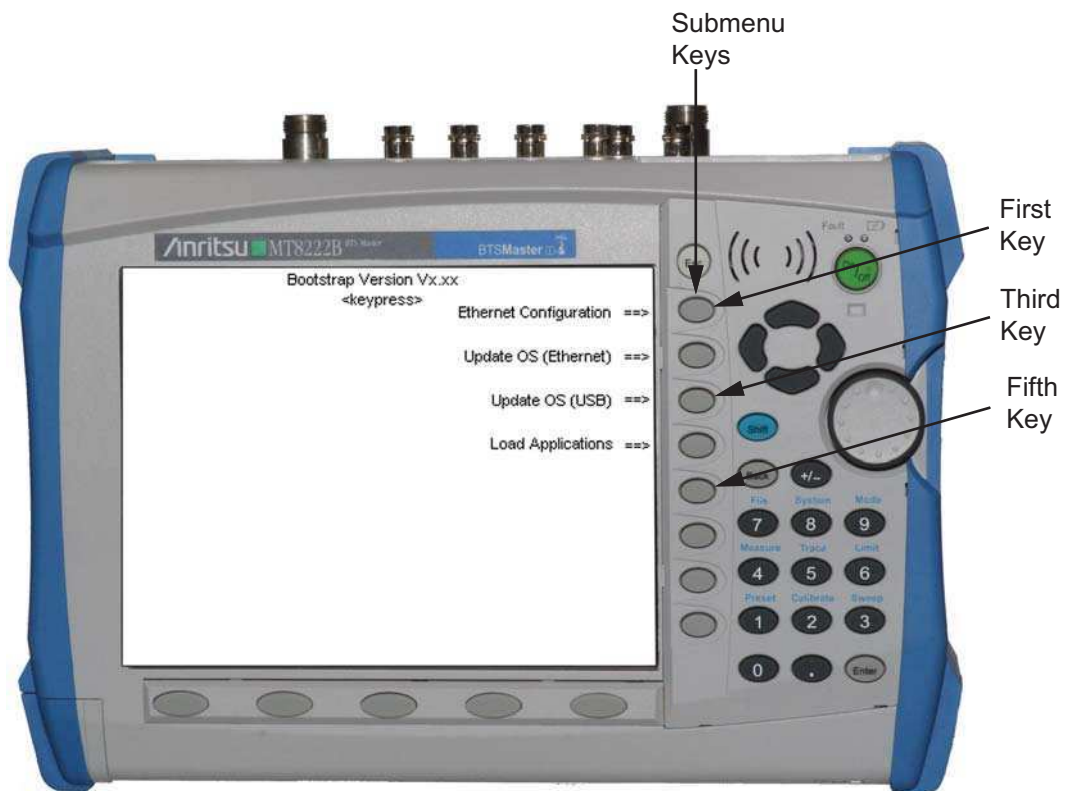

Figure 7-5. BTS Master Bootstrap Screen
If you have problems booting up your BTS Master after updating then firmware on your BTS Master, use the following steps to resolve the problem. Refer to Figure 7-5.
4. Press the Ethernet Configuration submenu key (the first submenu key, as shown in Figure 7-5).
8. Press the Update OS (Ethernet) submenu key (the second submenu key in the bootstrap menu, as shown in Figure 7-5).